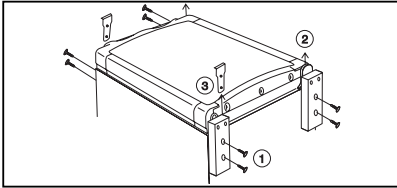

Figure 7.
10. Reversing the door hang, (Fig. 7)